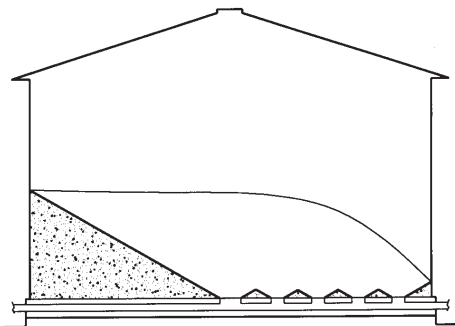

FIG. 7
5. When grain flow stops, shut down the unloader and lock-out (the grain remaining should appear as in Figure 7).